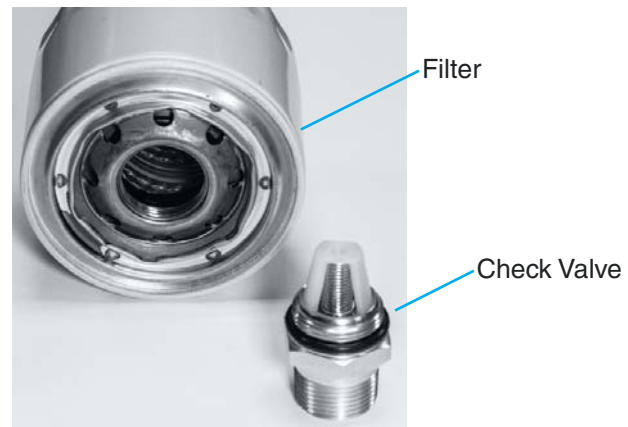

Figure 12 Breather Assembly
5. Remove the check valves. Discard the old filters in accordance with local regulations. See Figure 12.